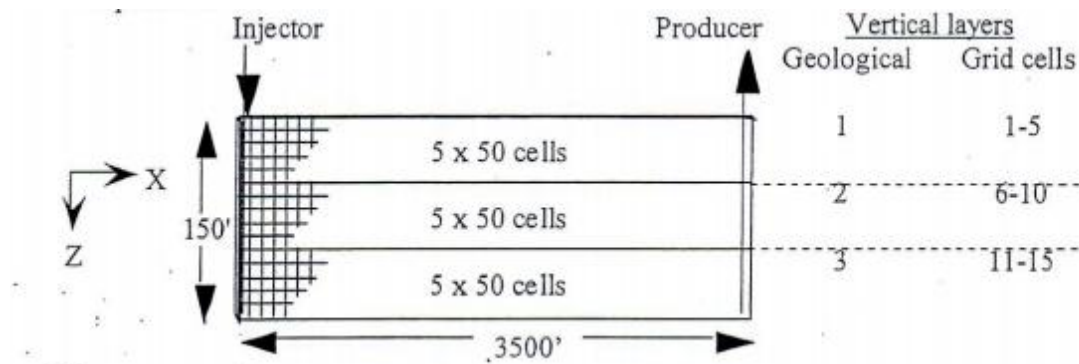

Figure 2: Schematic of model in three geological layers
- The reservoir model is distributed over 3 geological layers as illustrated in Figure 2. Define TOPS for only the first layer of grid cells, but all poro/perm properties should be assigned per geological layer. Maintain the same PERMX, PERMZ, PORO and NTG values in each geological layer as in CASE 1. Delete PERMY and associated data.